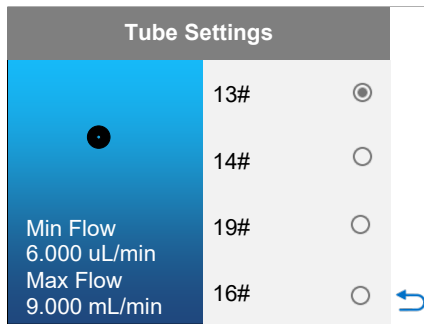

Figure 26 Tubing Selection
- Tube Settings:** Choose the appropriate tubing size for the selected pump head. Swipe up and down to view the menu, as shown in Figure 26.